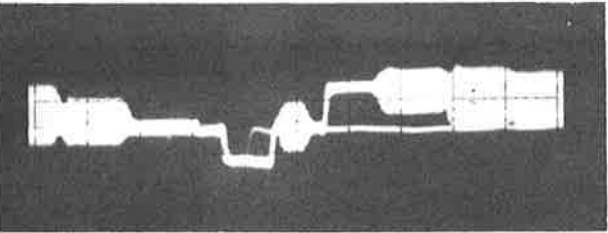

Fig. 24—Chroma Level
- 4. Adjust R3312 so that the p-p level of color reference burst is 1V p-p see Figs. 24 & 27.